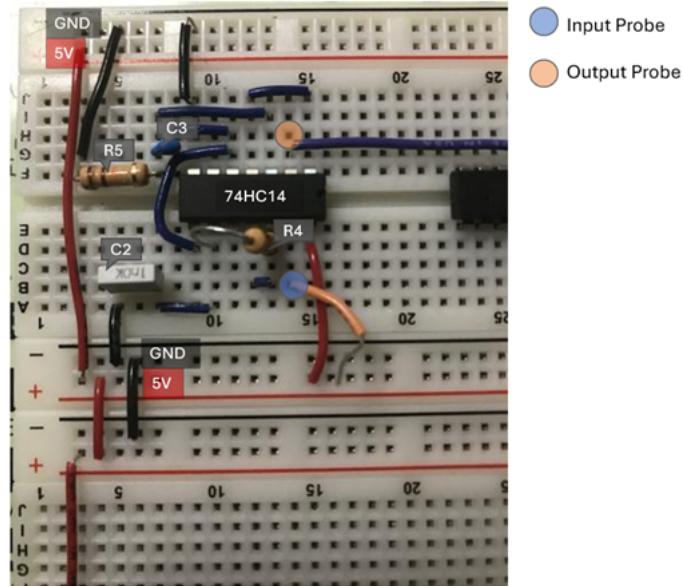

Figure 7: Setup of delay and reset circuit on breadboard for reading the reset pulse generated
- I set up the RESET circuit on the breadboard around the IC as seen in Figure 7